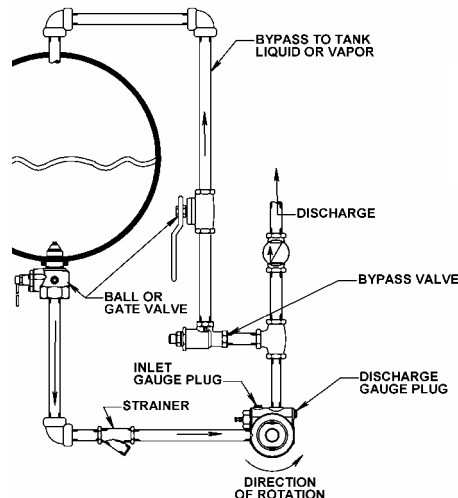

Figure 3
9. The external bypass line should be 1/2" (12.7 mm) diameter pipe and can be piped back to either the liquid or vapor section of the tank. See Figure 3.